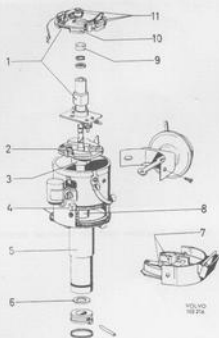

Fig. 3-106. Lubricating scheme for distributor
1. Lubricate the distributor parts according to the instructions given in Fig. 3-106.